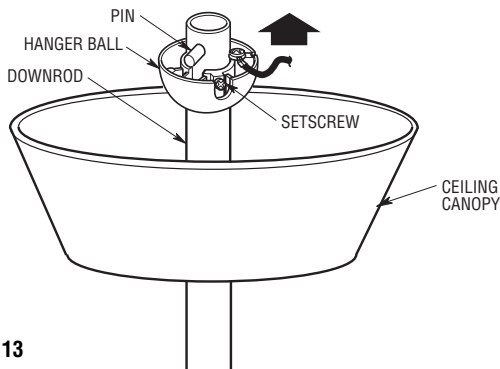

Figure 13
- 14. Reinstall the hanger ball (Figure 13) on the downrod as follows. Route the three 80" motor leads through the hanger ball. Position the pin through the two holes in the downrod and align the hanger ball so the pin is captured in the groove in the top of the hanger ball. Pull the hanger ball up tight against the pin and securely tighten the setscrew in the hanger ball. A loose setscrew could create fan wobble.